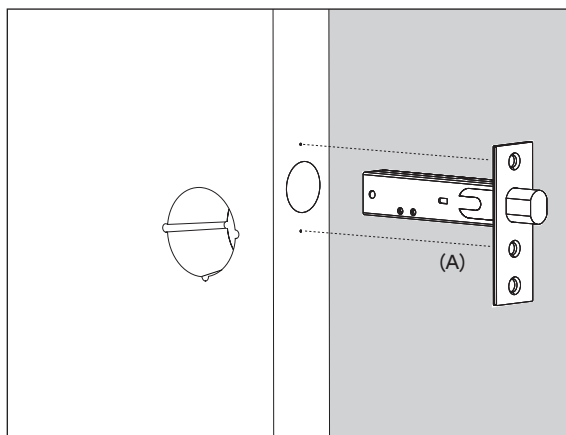

Figure 4.
7. Insert the deadbolt euro body (A) into the door edge and mark the two fixing holes. Figure 4.